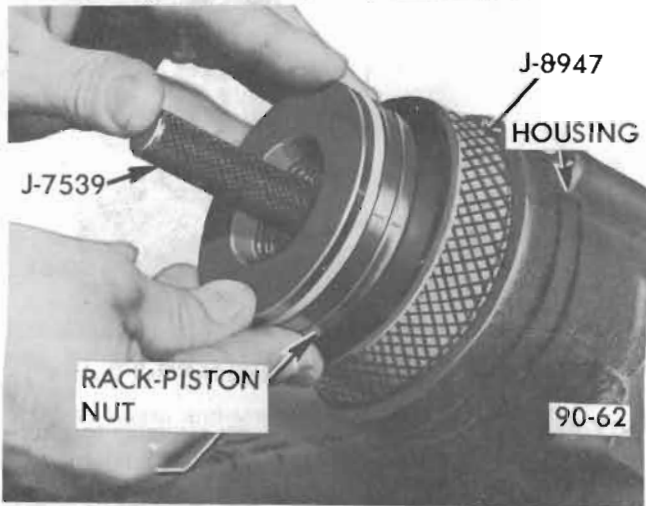

Figure 90-62 Installing Rack-Piston Nut - 43-44000 Series
6. Install ring compressor sleeve tool (J-8947 used for 43-44000 Series and 45000 Series with 350 engine; J-7576 used for 45-46-48-49000 Series) in gear housing and hold it tightly against shoulder in the housing. See Figures 90-62 and 90-63. Insert the rack-piston nut into the housing until the ball retaining tool J-7539 engages the worm. Turn the stub shaft drawing the rack-piston nut into the housing. When the piston ring is into the housing bore, the ball retaining tool and ring compressor may be removed.